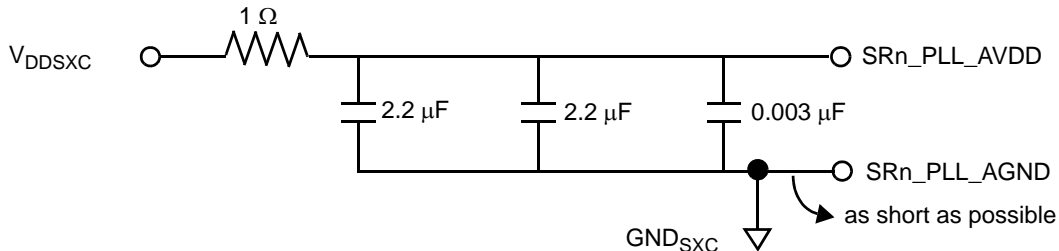

Figure 38. SerDes PLL Supplies
- Couple inputs SR1_PLL_AVDD and SR2_PLL_AVDD with SXCVDD1 and SXCVDD2 power rails, respectively, using an RC filter (see Figure 38).
Each SerDes PLL power supply must be filtered using a circuit similar to the one shown in Figure 38, to ensure stability of the internal clock. For maximum effectiveness, the filter circuit should be placed as closely as possible to the SRn_PLL_AVDD ball to ensure it filters out as much noise as possible. The ground connection should be near the SRn_PLL_AVDD ball. The 0.003 μF capacitor is closest to the ball, followed by the two 2.2 μF capacitors, and finally the 1 Ω resistor to the board supply plane. The capacitors are connected from SRn_PLL_AVDD to the ground plane. Use ceramic chip capacitors with the highest possible self-resonant frequency. All trances should be kept short, wide, and direct.